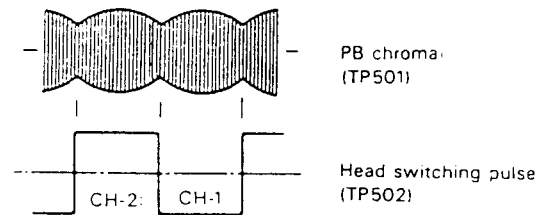

Figure 1-24.
- e. Observe the waveform of the PB chroma, and push the (+) or (-) tracking button to check for a flat PB chroma. This adjustment is satisfactory if a flat response is obtained on the waveform of the PB chroma when the (+) or (-) tracking button is pushed. If a flat response cannot be obtained roughly adjust the guide roller using the special bladed screwdriver until the PB chroma output is flat. While keeping the both (+) and (-) tracking buttons down, adjust the X-position adjusting nut so that the PB CHROMA envelope becomes almost maximum. In the case of rough adjustment, pay particular attention to the outlet side (see Fig. 1-24).